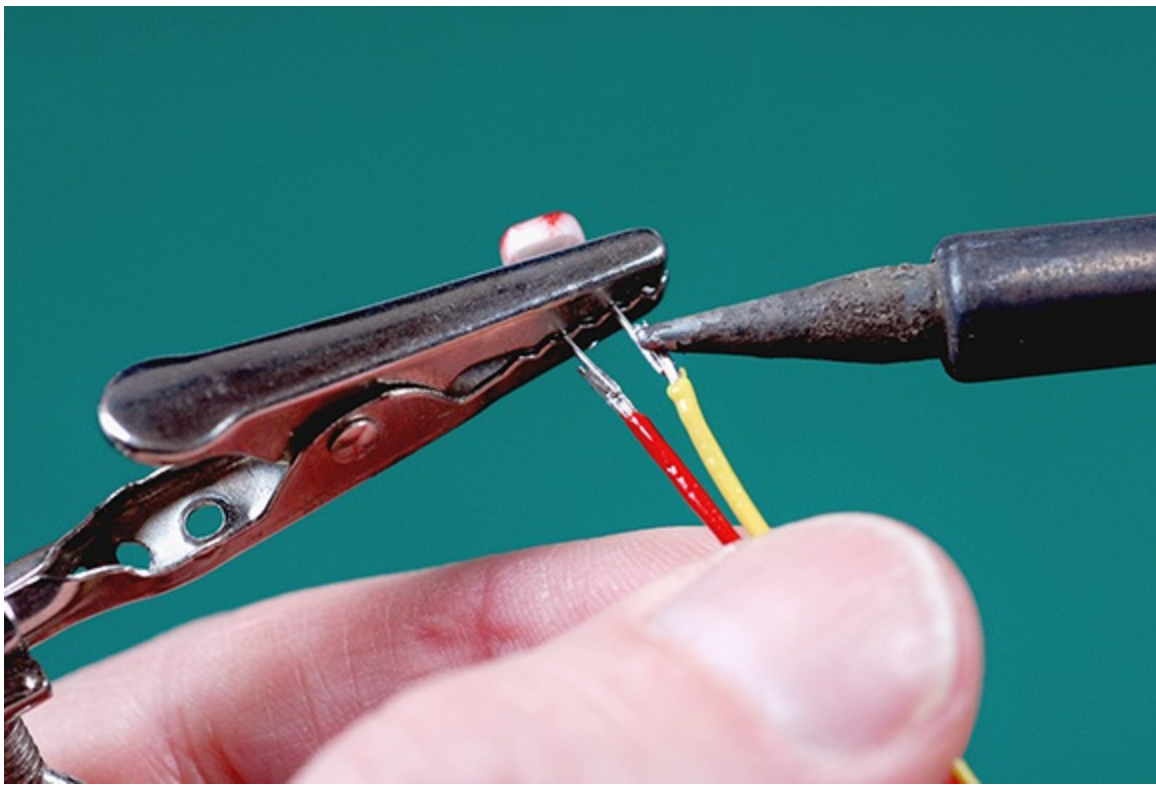

Figure 12-6: Soldering your light-level sensor.
6. For the light sensor, solder only two wires to your LDR, one for power and one for signal, as shown in Figure 12-6.